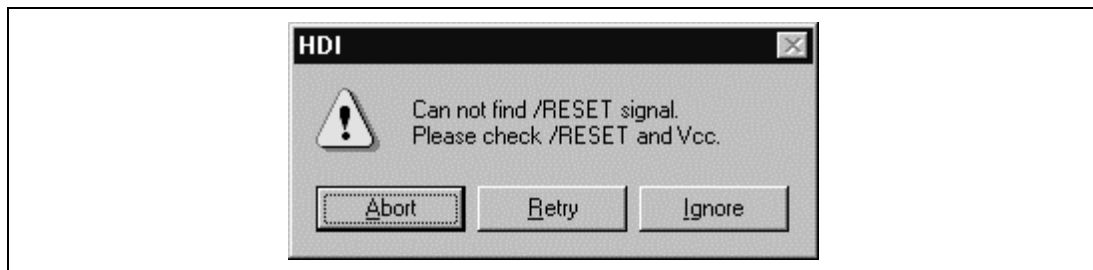

Figure 2.27 [Can not find /RESET signal] Dialog Box
3. If the emulator is not initiated, the following dialog boxes shown in figures 2.27 through 2.30 will be displayed.